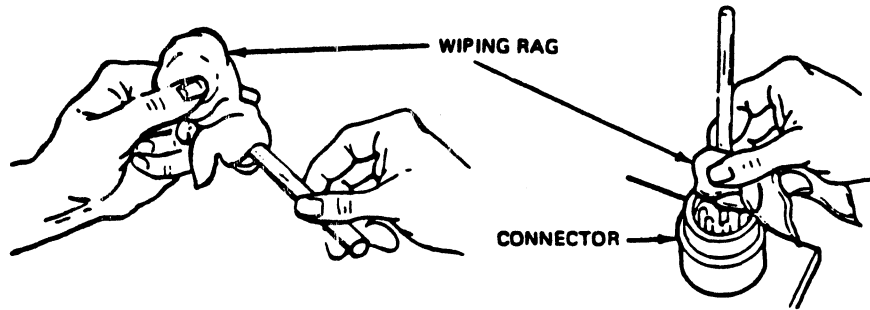

Fig 5-3. Cleaning the connector with swab.
1. Wrap a clean wiping rag around the stick to form a swab (fig 5-3).
3. Clean the contact of the connector with a wet swab (fig 5-3).